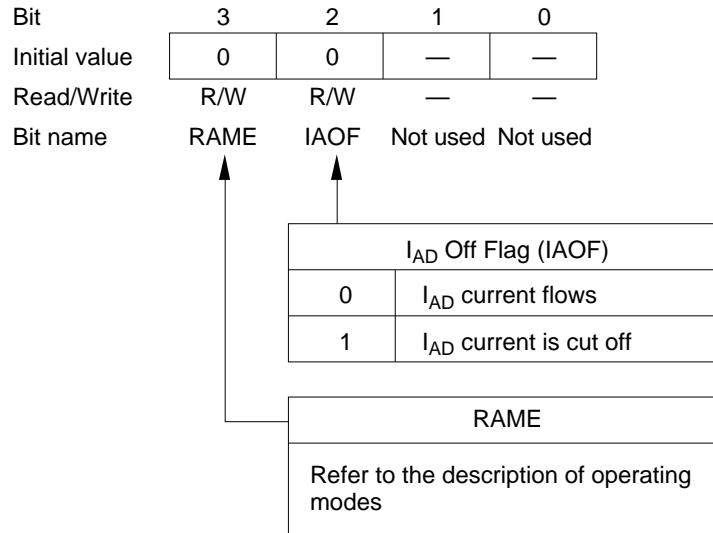

Figure 57 I_{AD} Off Flag (IAOF)
- By setting the I_{AD} off flag (IAOF: \$021, bit 2) to 1, the current flowing through the resistance ladder can be cut off even in standby or active mode (figure 57).